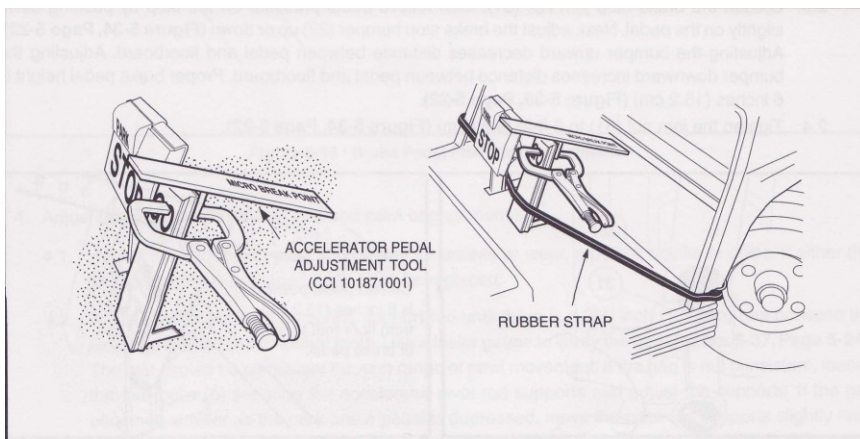

Figure 5-32
21. Clamp the accelerator pedal adjustment tool to the accelerator pedal, with the end marked *accelerator pedal height* closest to the floorboard (Figure 5-32). Depress the accelerator pedal until the end of the tool rests against the floorboard; pedal height should be 5-5/8 inches (14.3 cm). Use a rubber strap to hold pedal in position against the floorboard and then tighten nut to 26 ft-lb (35.3 Nm).